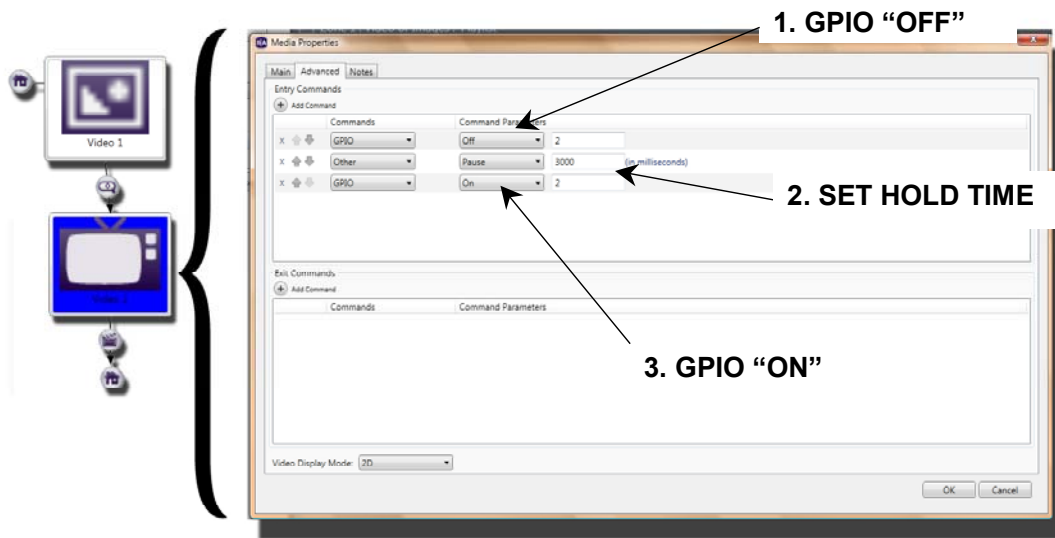

FIGURE 8-2
1. To reset the MD755, edit the media clip where the reset should occur. Under the "Advanced" tab, add a GPIO "OFF" command to GPIO line #2 as shown in Figure 8-2.